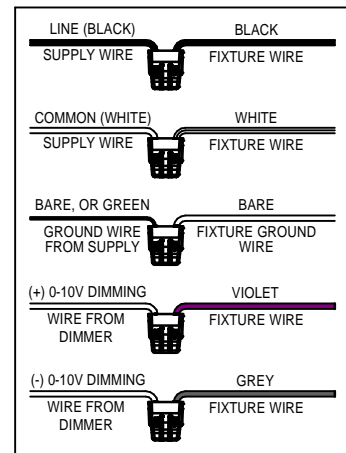

FIG. 2
2. Remove the Junction Box Cover (3) by removing the Cover Screw (4).
3. Run supply and dimming wires (optional for 0-10V dimming) through UL Listed connectors (not supplied) in one of the three Pryouts (5) on the Junction Box (6). Connect Supply Wires and Dimming Wires (optional for 0-10V dimming) as shown in Fig 2. Replace Junction Box Cover (3) and tighten Cover Screw (4).
4. Slip housing (7) up thru ceiling opening with Flange (8) up against ceiling. Make sure the Straps (9) are laying vertically against Housing (7) so that unit can pass through ceiling opening. Loosen both Wing Nuts (10), rotate and slide Straps (9) down and secure against top of ceiling surface. Tighten Wing Nuts (10) with Flat Washers (11) in place.